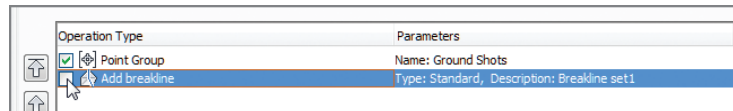

FIGURE 4.9 Unchecking the Add Breakline operation for the surface
10. Select the surface and open Surface Properties again. On the Definition tab, uncheck the box next to Add Breakline, as shown in Figure 4.9. Click OK, and then click Rebuild The Surface.